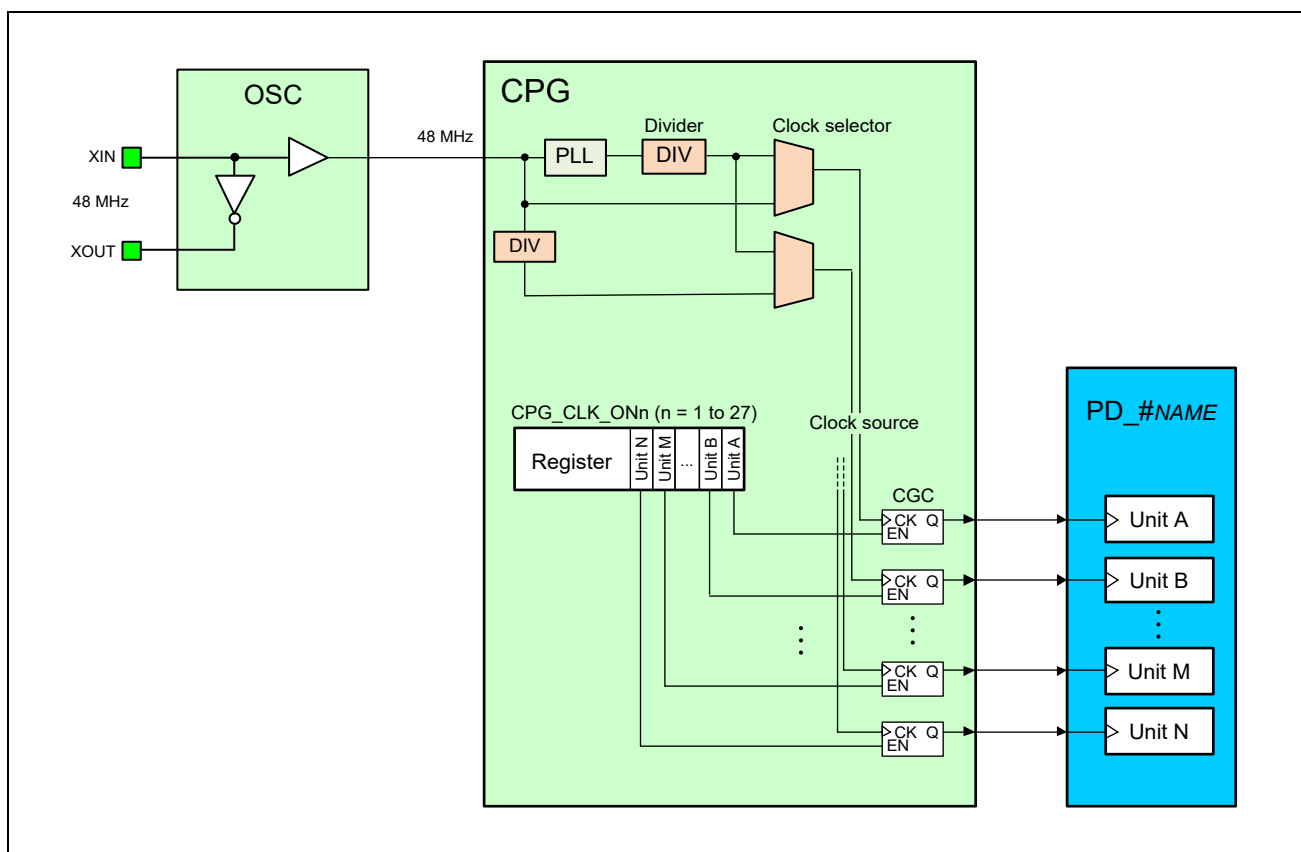

Figure 3.3-1 Schematic View of the Clock Configuration
**Figure 3.3-1** shows a schematic view of the clock configuration of this LSI.